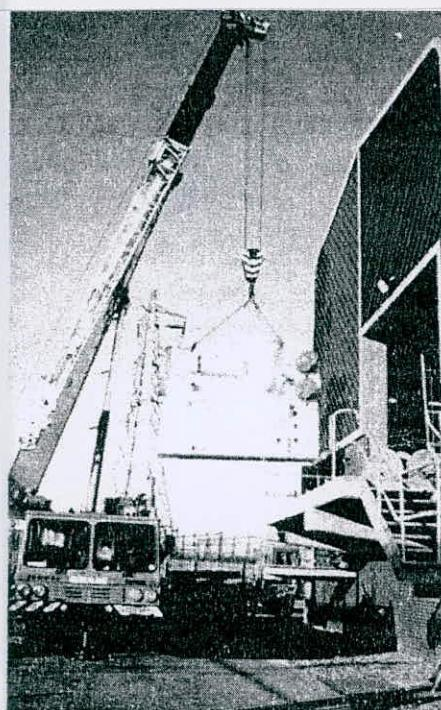

Fig. 1
1. (a) An electrical switch gear is supported by a crane through a steel cable (Fig. 1) of length 4 m and diameter 0.01 m. If the natural time period of the axial vibration of the switch gear is found to be 0.01 s, find the mass of the switch gear. E = 27,500 ksi for steel cable. Write down the relevant equation of motion. **(11 1/3)**